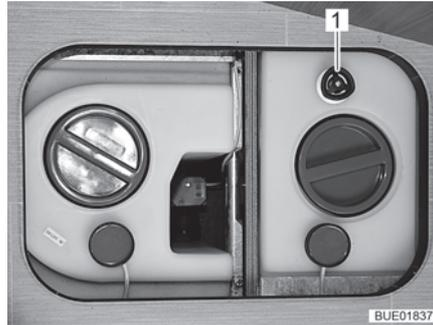

Fig. 193 Water tank with rotary handle
- Turn the rotary handle (Fig. 193,1) on the water tank in an anticlockwise direction as far as possible beyond the resistance to fully open the drainage opening.